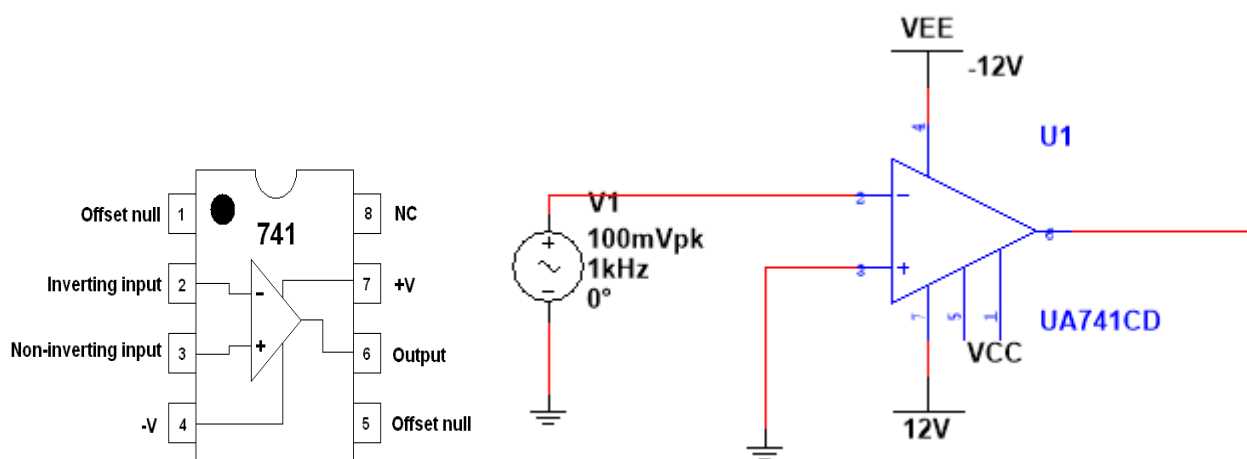

Figure 1.1(a) Pin diagram (b) Circuit for testing Op-amp as ZCD.
1. The circuit is set-up as shown in figure 1.1. The supply voltage $\pm V_{CC}$ is set at $\pm 14V$.
5. The Op-amp circuit in figure 1.1 can be tested as non-inverting ZCD by interchanging the connections at the terminals pin 2 & 3.